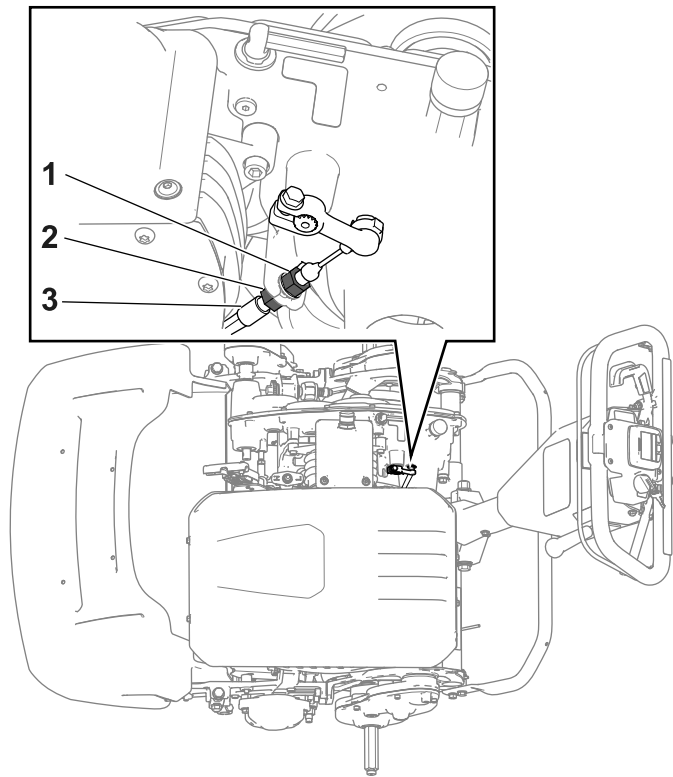

Figure 39
- To increase the cable tension, loosen the front-cable jam nut and tighten the rear jam nut (Figure 39). Repeat step 2 and adjust the tension if necessary.
nut (Figure 39). Repeat step 2 and adjust the tension if necessary.